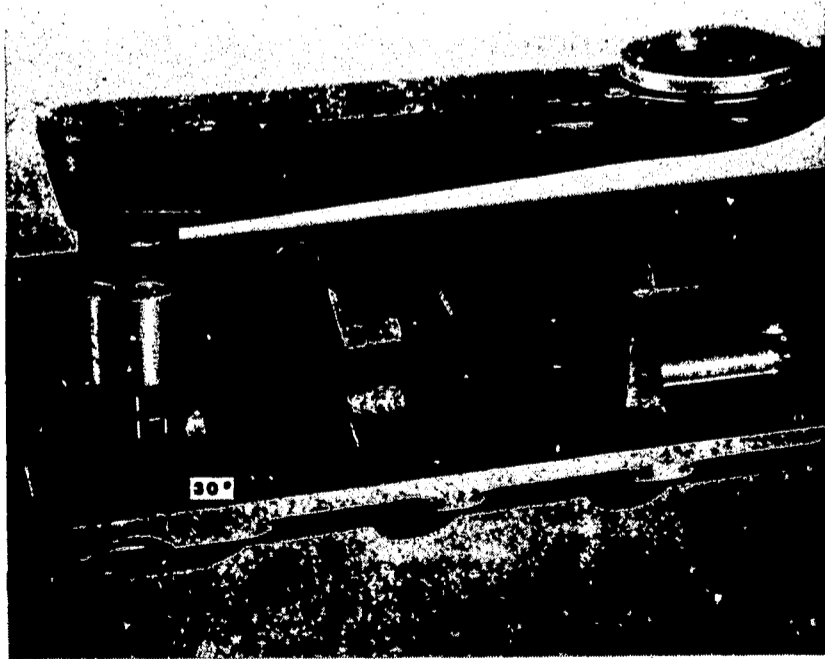

Fig. 1 Advancing capscrew  $30^\circ$
- f. Advance  $30^\circ$  (half-hex) from snug position; See Figure 1. This will align scribed marks (on next corner) with mark on main bearing cap or lockplate. Tighten each capscrew a little at a time and as evenly as possible until reaching operating tension.